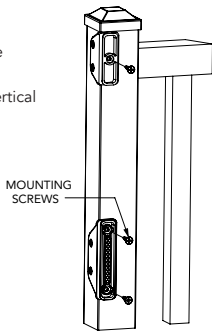

Figure 5
5. Install one (included) flat head mounting screw in the front side of the upper bracket (Figure 5).
6. Install two (included) flat head mounting screws in the front side of the lower bracket (Figure 5).